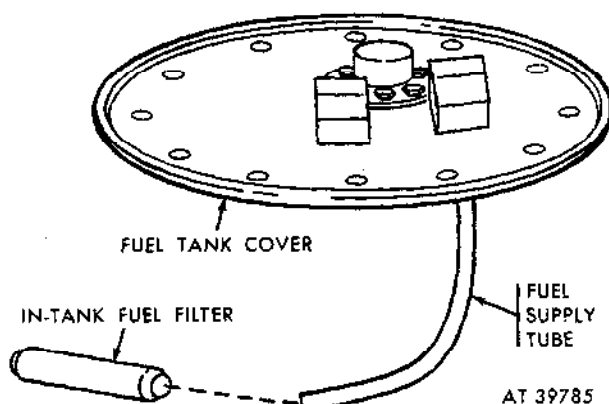

Figure 2-114. In-Tank fuel filter on M151A2, M825 and M718A1 vehicles.
(1) Remove fuel tank cover (para 2-49).
(2) Remove and discard fuel filter from end of fuel supply tube (fig. 2-114).